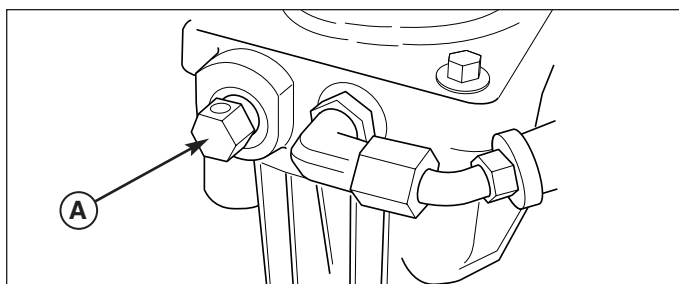

Figure 2. Transmission Release Valves
3. To disengage the pumps (free-wheel position), turn the hydraulic release valves (A, Figure 2) located on the pumps COUNTER-CLOCKWISE a maximum of 2 full turns.